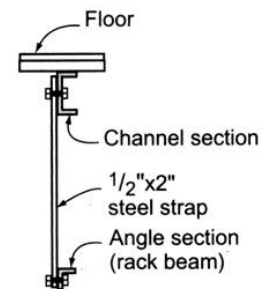

Figure 6.19 Section.
- a. The tensile stress developed in the steel strap (Figure 6.19) can be determined using the direct stress formula.